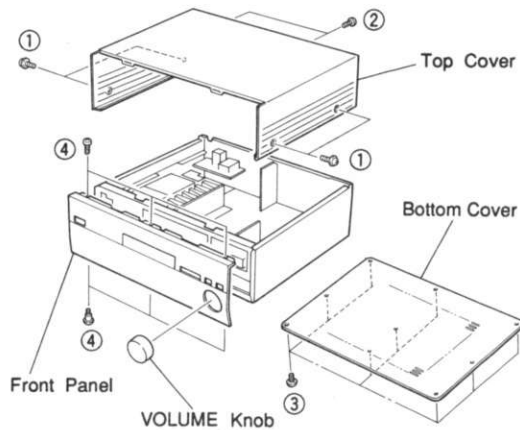

Fig. 1
- a. Remove 4 screws ( ① ) and 2 screws ( ② ) in Fig. 1.
- a. Remove 9 screws ( ③ ) in Fig. 1.
- b. Remove 6 screws ( ④ ) in Fig. 1.